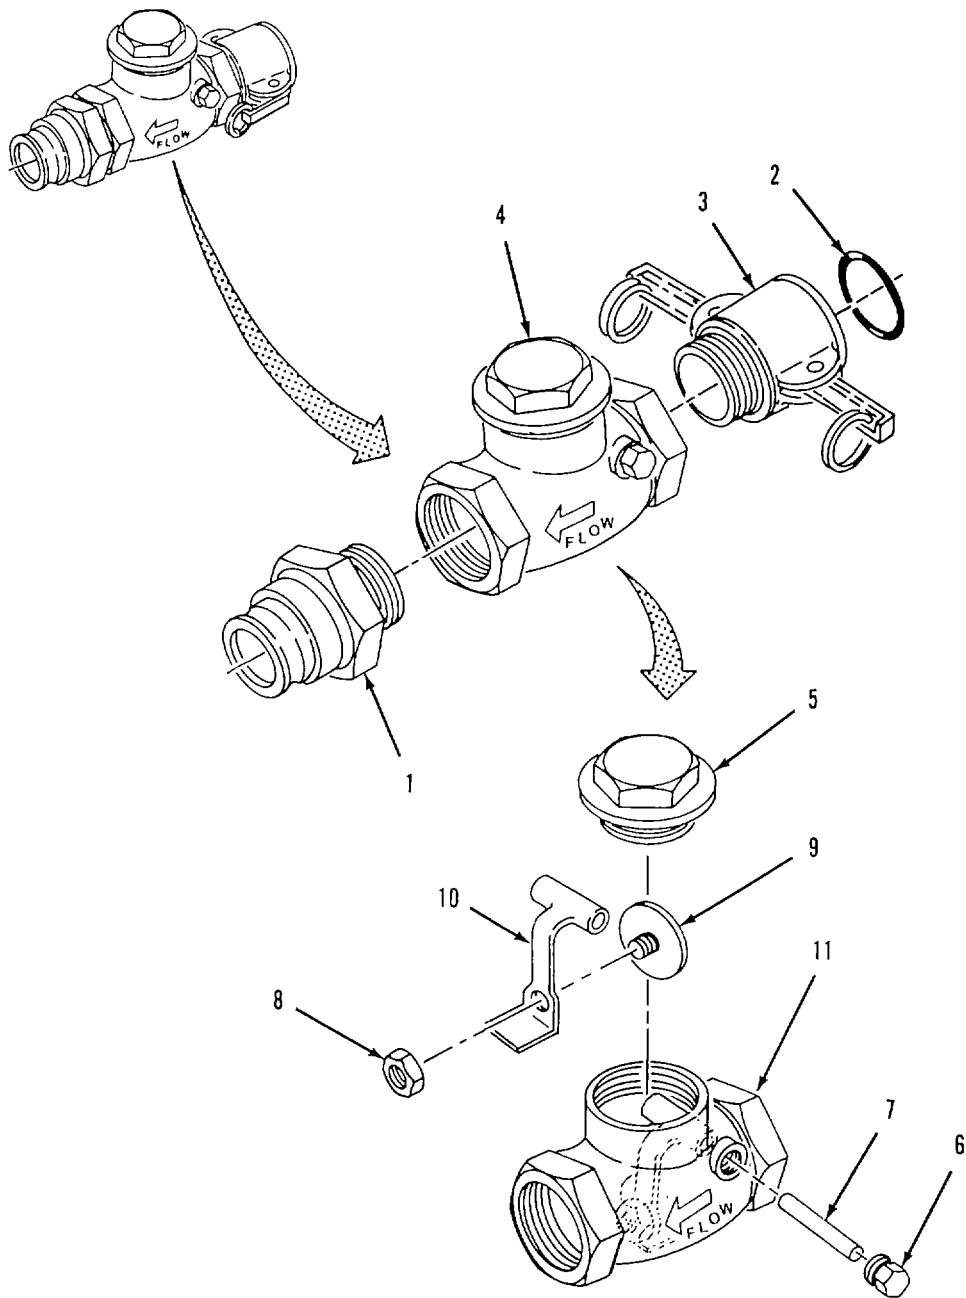

Figure 4-30. Check Valve Assembly (2-inch) Repair.
- a. Disassembly. Refer to figure 4-30.
- (1) Place check valve assembly in vice.
- (2) Using pipe wrench, remove male coupling (1) from assembled valve (4).
- (3) Remove gasket (2) from female coupling (3).
- (4) Using pipe wrench, unscrew female coupling (3) from assembled valve (4).
- (5) Using pipe wrench, remove cap (5) from body (11).
- (6) Remove plug (6) body (11).
- (7) Pull pin (7) out from body (11) and lift out lever (10) and attached parts.
- (8) Remove nut (8) and separate disc (9) front lever (10).